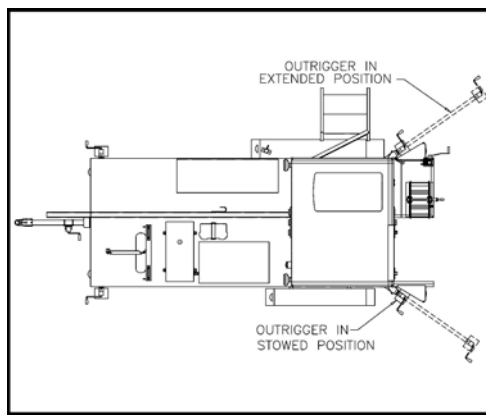

Fig. 5 Outrigger Positions
3. Remove the two hitch pins that hold the rear “outriggers” in the stowed position. Carefully pull them out until the second set of pinholes is visible. Then reinsert the pins with the outriggers in the extended position (*see Fig. 5*). Repeat for the front “outriggers”.